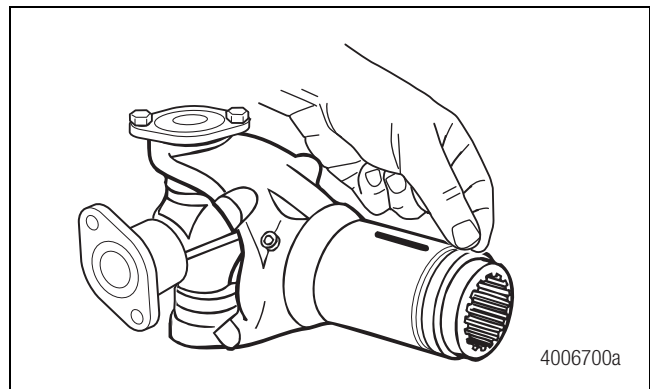

Figure 5.7
1. Install the seal onto the groove in the slip yoke. Figure 5.7.